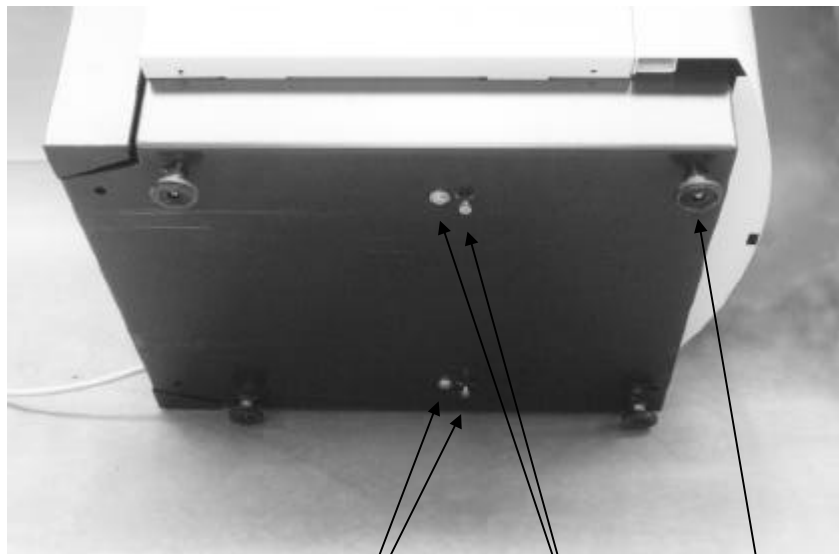

figure 1
- **WARNING:** Before using the machine remove the 4 bolts (M6) for transportation underneath the machine (see figure 1)
- Ensure that the machine is level by raising or lowering the adjustable feet (figure 1). For the machine to work properly, it is necessary for this to be done carefully. Once the feet have been adjusted, they must be secured using the lock nuts.